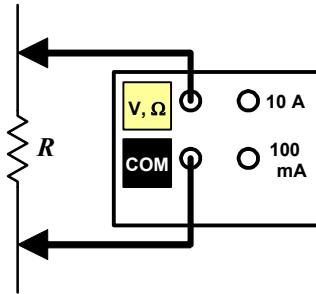

Figure E.4 Connection for using the DMM as an ohmmeter, measuring the resistance of resistor R .
*Resistance measurements are made **in parallel** with the resistor being measured (Figure E.4). One lead of the resistor is connected to the [V, Ω, →] port, while the other is connected to the [COM] port. **Resistors are not polarity sensitive**, so the resistor can be connected in either direction.*